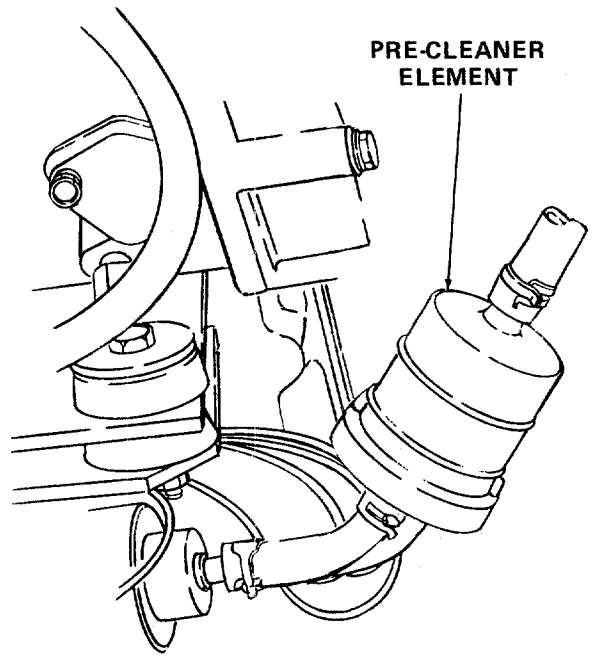

Figure 38
2. Remove the top and bottom hose clamps and remove and discard the pre-cleaner element. (See Figure 38.)